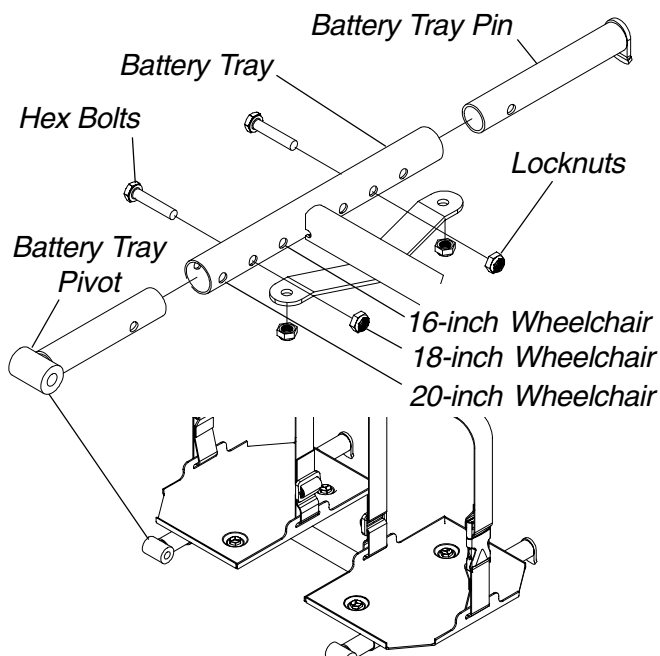

FIGURE 11 - BATTERY TRAY - CHANGING WIDTH OF BATTERY TRAY
Changing Width of Battery Tray (FIGURE 11)
2. Remove the hex bolt and locknut that secure one (1) of the battery tray pins to the battery tray.
3. Refer to FIGURE 11 to determine mounting hole in the battery tray that corresponds to width of the wheelchair.